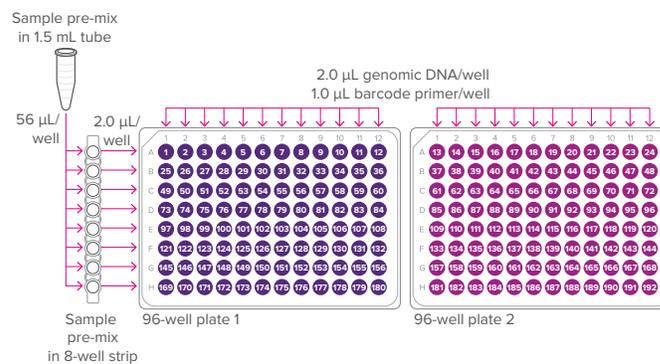

Figure 3. Preparation of sample mixes
- 4 Pipet 56 μL of the sample pre-mix into each well of a new 8-well strip (see Figure 3).
- 2 In a DNA sample hood, prepare the sample mixes by pipetting the components shown in Table 5 into each well of a new 96-well plate. Pipet reagents and samples according to the diagram shown in Figure 3. Use an 8-channel pipette to transfer the sample pre-mix from the 8-well strip.